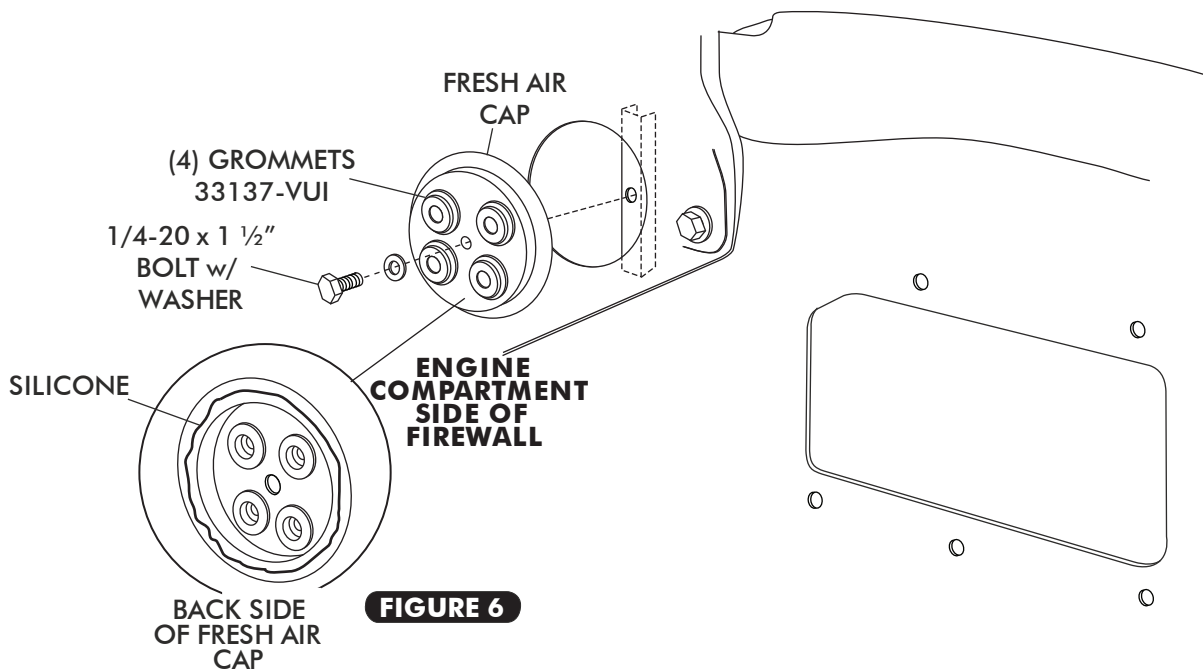

FIGURE 6
- ☐ INSTALL (4) GROMMETS IN FRESH AIR CAP. SEE FIGURE 6, BELOW.